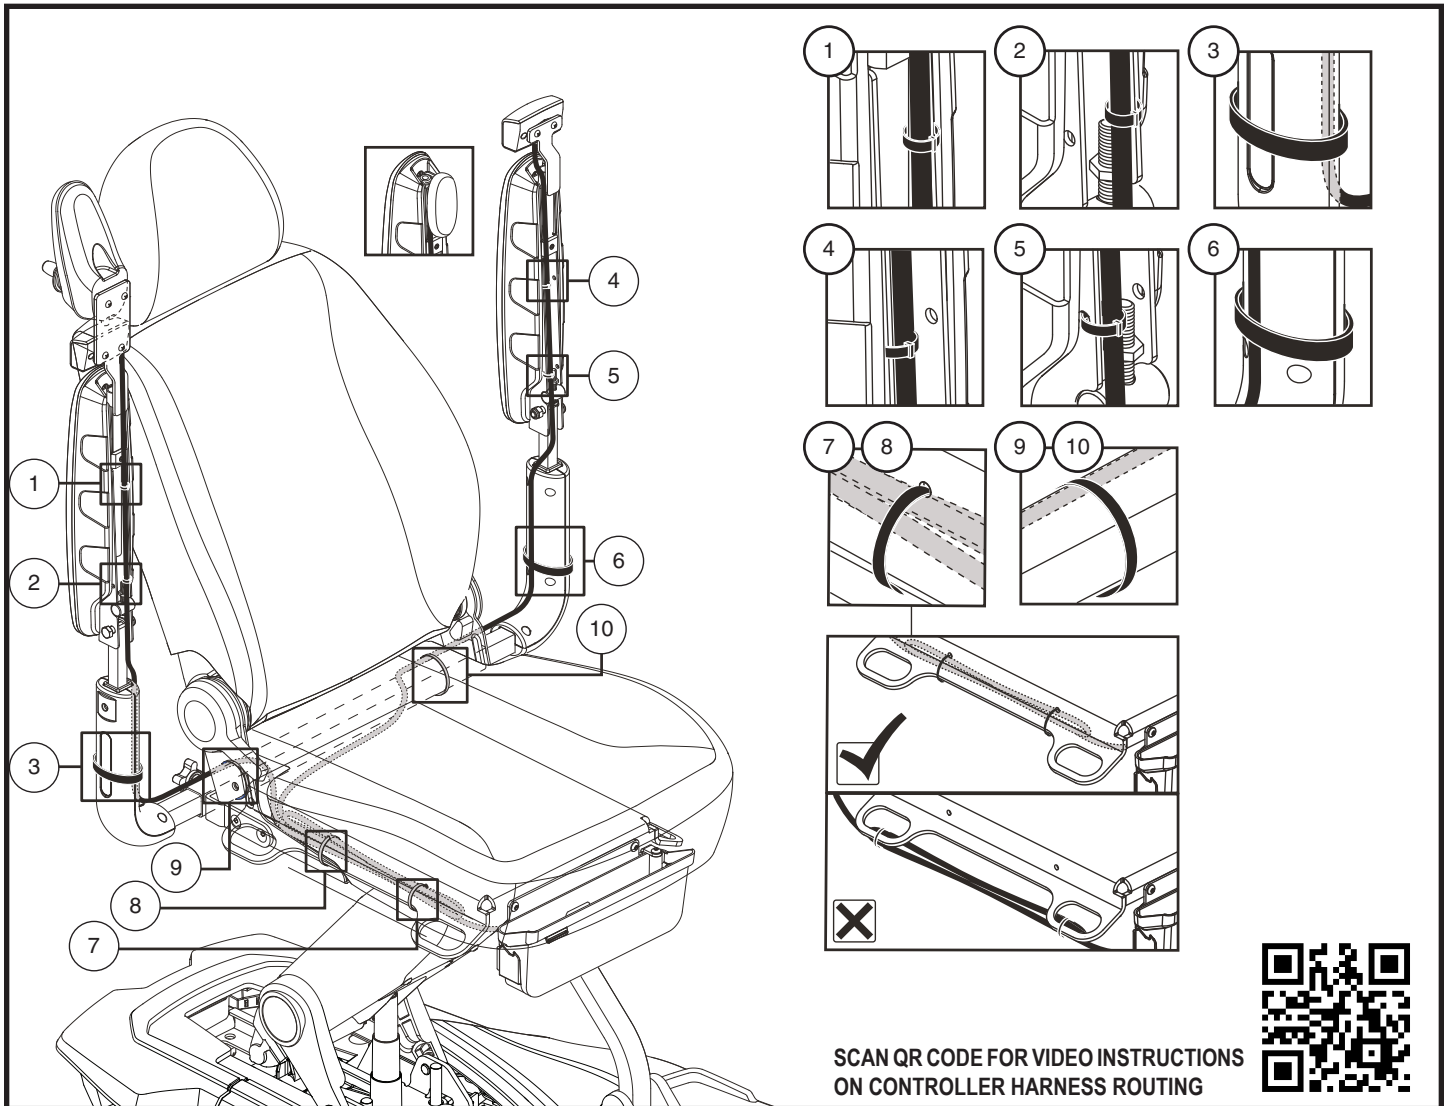

Figure 11. Controller Harness Routing
17. Secure the harnesses on the armrest with the supplied wire-ties as shown in figure 11.
19. Secure the harnesses along the armrest receiver and seat plate with supplied wire-ties as shown in figure 11.
WARNING! Ensure that all harnesses are properly routed as shown in figure 11. Improper routing can cause damage to the light switch, controller, or other electrical components.
1. For locations 1 through 10, tighten the wire-ties into place according to the proper harness routing shown in figure 11.
NOTE: For video instructions on routing the controller harness, visit <https://youtu.be/KHdTQK9KXn0> or scan the QR code shown in figure 11 with your smartphone device.
9. Route the controller harness along the seat frame and secure with wire ties. **See figure 11.**